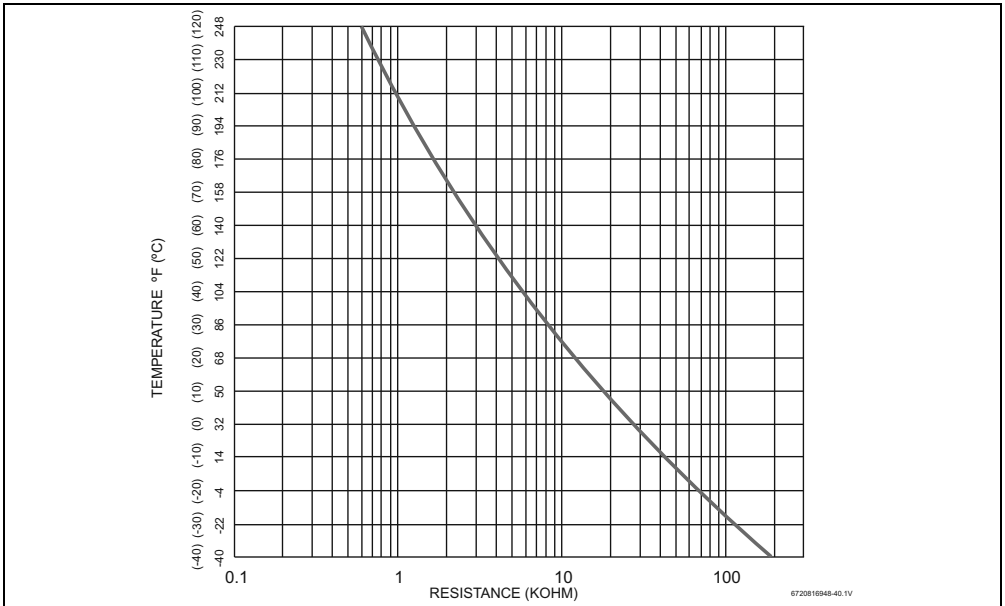

Fig. 53 Inlet, outlet and heat exchanger water temperature sensors characteristics
2) see temperature resistance charts in fig. 53 and 54.